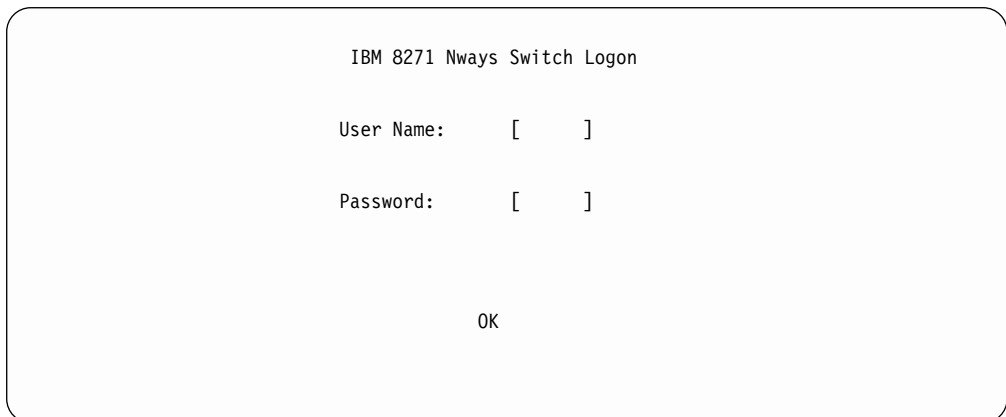

Figure 150. LAN Switch Logon
16. Press **ENTER** to continue. Figure 150 Displays.